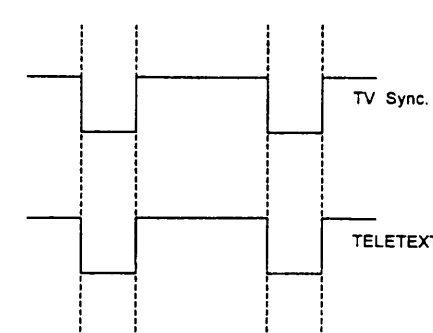

Fig 10.
- Exactly the same as teletext sync. as shown in fig 10.